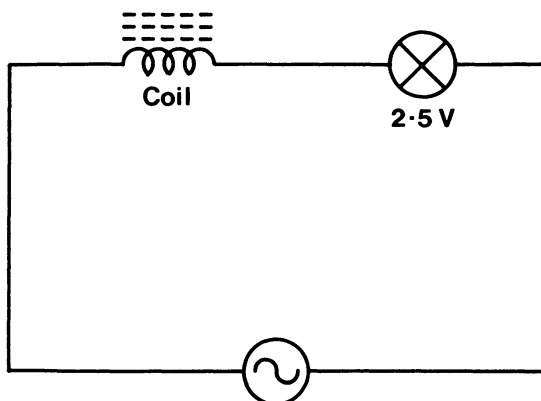

FIG. 1.16
2. Connect the coil in circuit as shown in Fig. 1.16. Change the frequency of the signal generator over its entire range and observe what happens. You will notice that the bulb lights up at low frequencies but that as the frequency is increased beyond a particular value the bulb dims and eventually goes out. This indicates that as the frequency increases the current in the circuit decreases and that the resistance of the inductor to alternating current therefore increases with increasing frequency. As with the capacitor, this resistance to a.c. current is known as *impedance*. Unlike the capacitor, however, it can be seen that an inductor's impedance does not decrease but increases with increasing frequency.